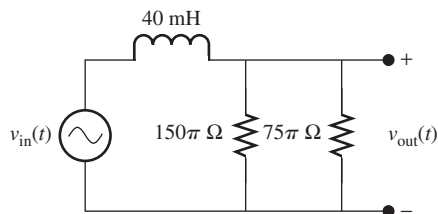

FIGURE P7.10 Circuit for Problem 7.10.
7.10 (A) What is the transfer function and the output voltage for the circuit in Figure P7.10 given the input voltage is $v_{in}(t) = 10 + 8 \cos(50\pi t - 90^\circ) + 4 \cos(100\pi t + 60^\circ)$?